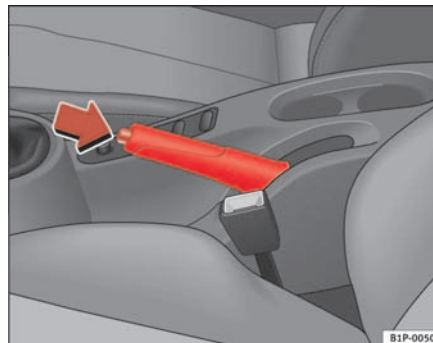

Fig. 120 Handbrake between the front seats
- Pull the handbrake lever up firmly ⇒ fig. 120.
- Pull the lever up slightly and press the locking knob in the direction of the arrow ⇒ fig. 120 and guide the handbrake lever down fully ⇒ ⚠.